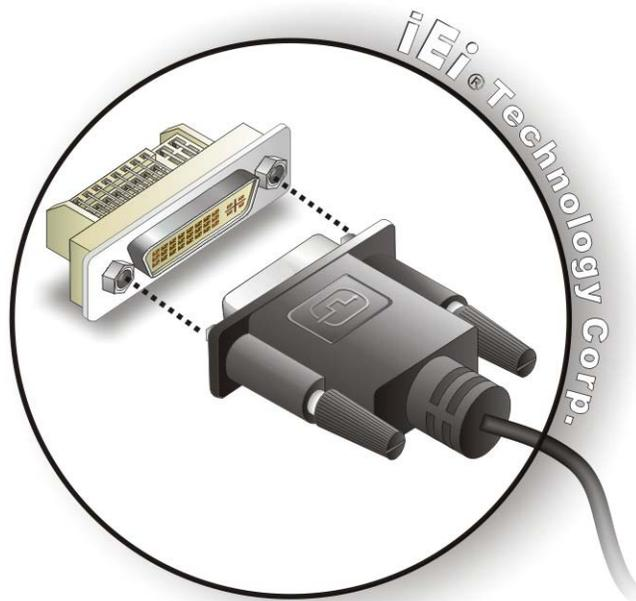

Figure 4-15: DVI Connector
Step 3: **Insert the DVI-I connector.** Once the connectors are properly aligned with the male connector, insert the male connector from the digital display device into the female connector on the IMB-H610. See **Figure 4-15**.